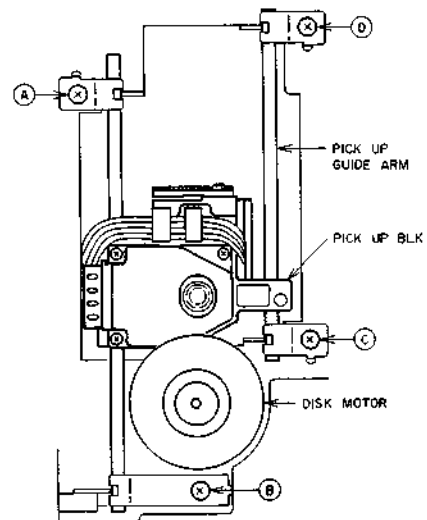

Fig. 5-4
- 7) When the four screws A, B, C and D, for the metal fittings of the pick-up guide rail are removed, the pick-up block guide rail can be removed. (Refer to Fig. 5-4)